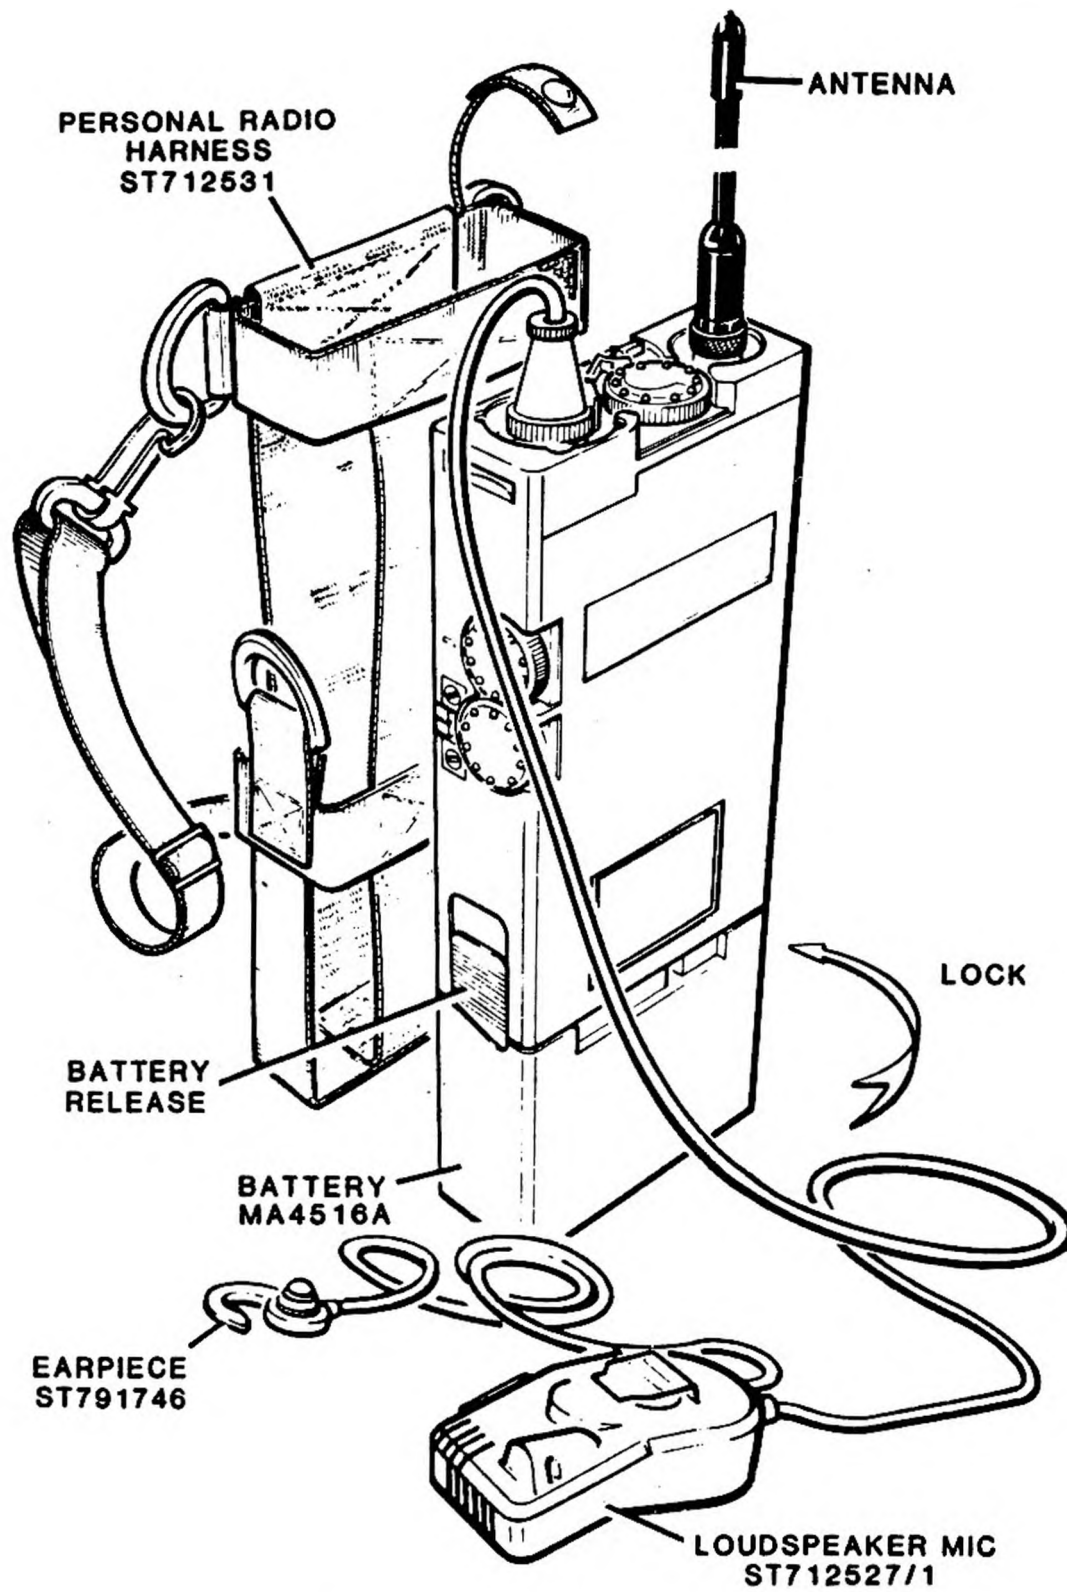

Fig 1 Portable station
3.1 Portable station (Fig 1). This is a portable handheld personal VHF transceiver intended for use in landing party and boarding party operations, KP and IS use ashore and for general evolutions mainly by non-communications personnel. A carrying harness is provided. The transceiver (with RF Amplifier TA4523L) is used as the central element of all the base stations.